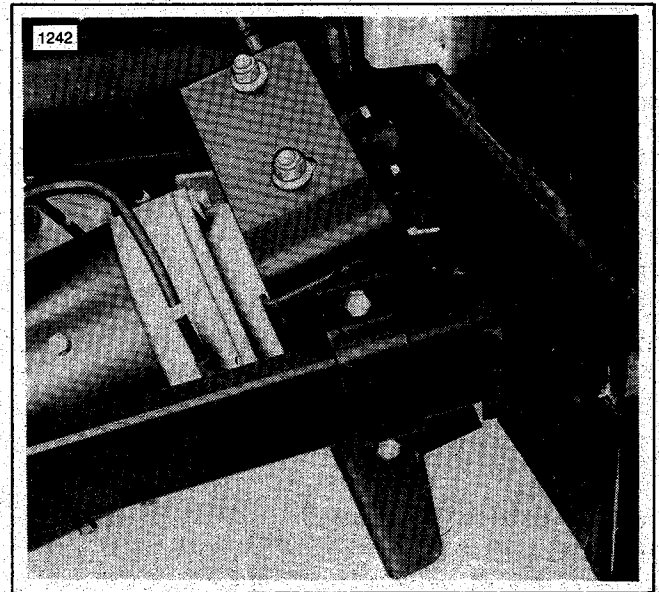

Figure 2-12. Brake Bracket Bolts
6. Remove the two brake bracket bolts (Figure 2-12) and remove caliper support bracket with caliper and cable attached.
2. Install caliper support bracket with caliper and cable attached. Secure with brake bracket and bolts (Figure 2-12).